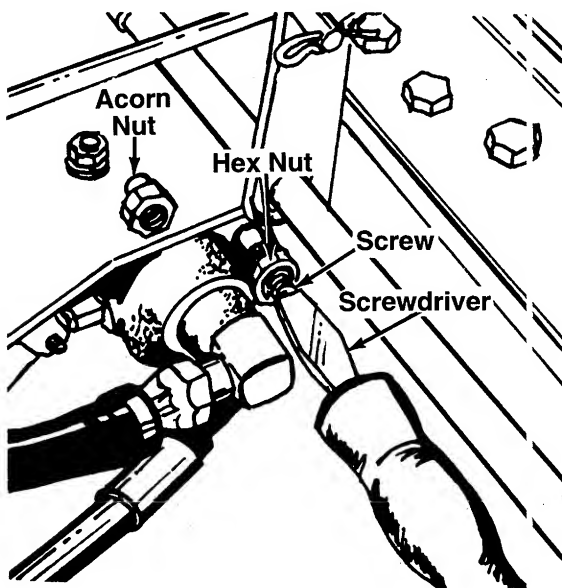

FIGURE 16.
1. Remove the acorn nut and washer. See figure 16.